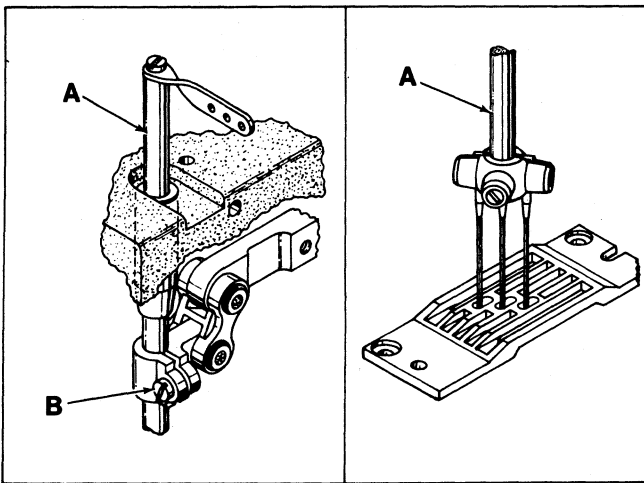
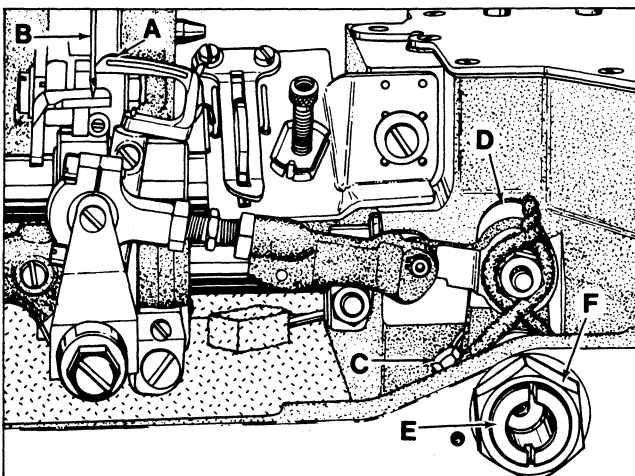
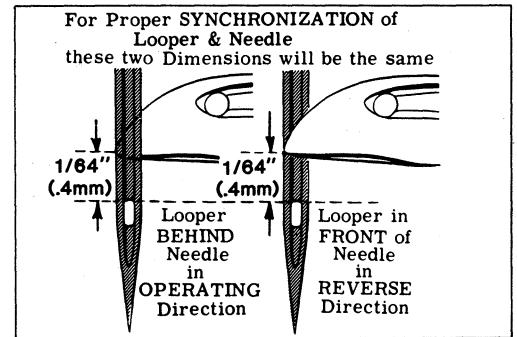

Fig. 3
Fig. 4
Fig. 5
Insert a new set of needles (type and size required). Turn handwheel to bring needle bar (A, Fig. 3) down to ensure that needles center in needle holes of throat plate as shown in Fig. 3. Adjustment can be made by loosening screw (B) slightly, allowing needle bar to be turned as required. Tighten clamp screw.
Insert looper into the looper rocker, pushing it all the way down and tighten screw against flat on shank of looper. Turn handwheel in operating direction until the point of the looper (A, Fig. 4) moving to the left, is even with the left side of the right needle (B). Note the height of the eye of the needle with respect to the looper point (See Fig. 5). Turn the handwheel in the reverse direction until the point of looper again moving to the left, is even with the left side of right needle (See Fig. 5). If the height of the eye of the needle with respect to the looper point are the same, looper and needle motions are synchronized - a variation of .005 inch (.127mm) is allowable.
NOTE: The 1/64 inch (.4mm) dimension shown in Fig. 5 is for final setting of needle bar height.
Loosen screw (C, Fig. 4) in looper drive lever (D). A rod of .146-40 thd. or Union Special Screw No. 22870 A can be threaded into the looper drive lever rocker shaft through the center of thrust adjusting screw (E). Tap or pull slightly as required to position shaft for proper synchronization. Tighten screw (C) securely and remove rod or screw used to position shaft. Loosen lock nut (F) and TORQUE thrust adjusting screw (E) to 6 in. lbs. (7cm/kg); re-tighten lock nut (F) securely.
The height of the needle is correct when the top of its eye is  $1/64$  inch (.4mm) below the underside of the looper, with the looper point flush with the left side of the needle as shown in Fig. 5. On Styles 56500 A, B and C the top of the needle eyes should be even with the underside of the looper when the looper point is flush with the left side of the needle. If adjustment is necessary, loosen screw (B, Fig. 3) and move needle bar (A) up or down as required and retighten screw. On two and three needle machines, care should be taken not to disturb alignment of needle bar when moving the needle bar either up or down. The descending needles must be deflected alike on the back of the loopers.